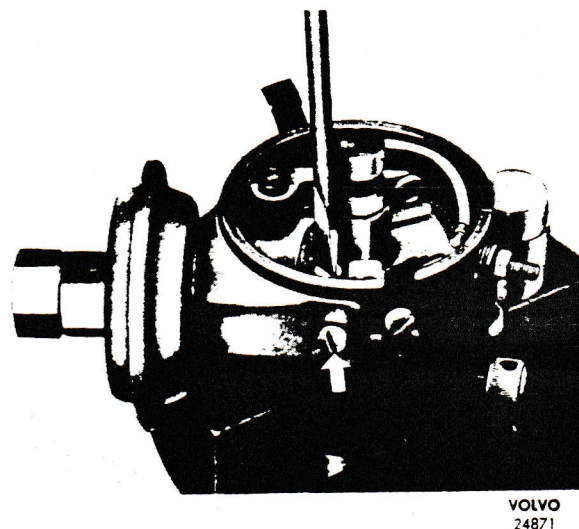

Fig. 68. Removing the vacuum regulator
2. Disconnect the vacuum regulator, if fitted, by unscrewing the screws as shown in Fig. 68 and then lift it off.